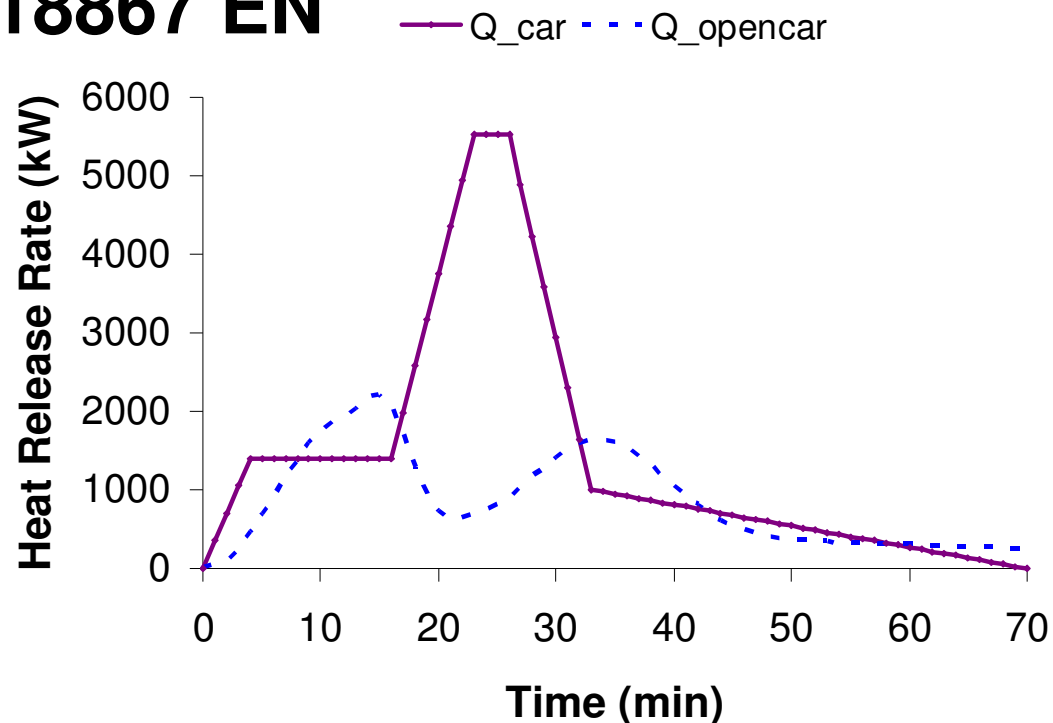

Figure 1: European Commission HRR curve comparison.
- Suggested HRR curve (Figure 1).